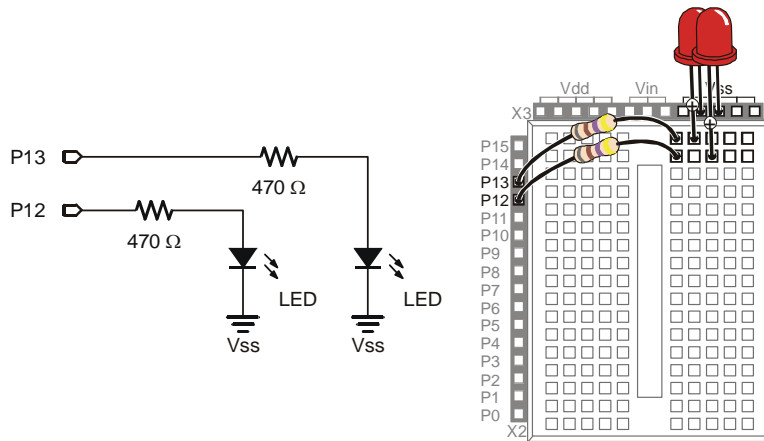

Figure 2-15
- ✓ If you removed the LED circuits after Activity #2, make sure to rebuild them as shown in Figure 2-15. They will be your servo signal monitoring circuits.